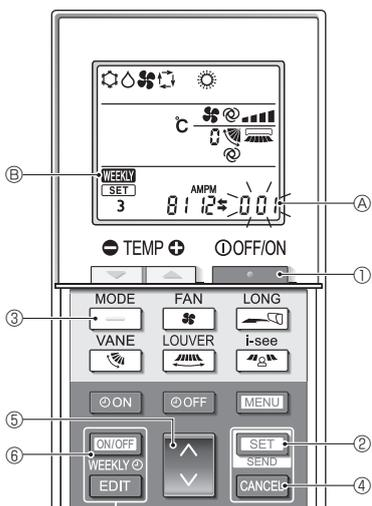

Fig. 4-12
#### 4.12.8. How to disable Auto mode operation (Fig. 4-12)
1. Press the **STOP** button ① to stop the air conditioner.
2. Press the **SET** button ② for 5 seconds.
3. Press the **UP** button ④.
4. Completing the settings (Fig. 4-12)
- Press the **SET** button ② for 5 seconds.